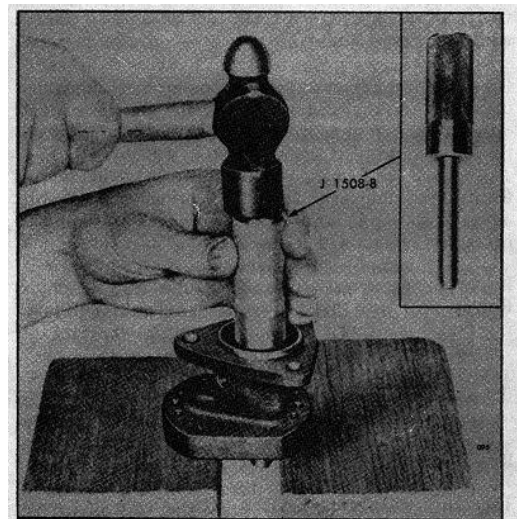

Fig. 6. Installing Inner Oil Seal
- b. With the pump body supported on wood blocks, insert the oil seal and tool in the pump body and drive the seal in until it bottoms in the counterbore (Fig. 6).